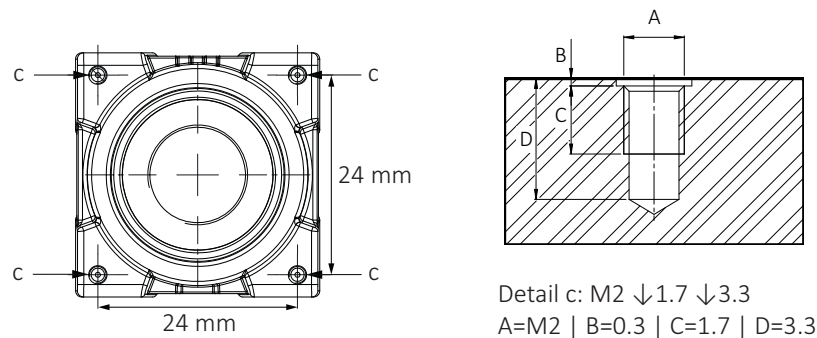

Figure 35: Camera front with mounting threads (c)
1. Mount the camera to the base using suitable M2 screws at 0.17 Nm maximum torque for a thread engagement (C) of 1.7 mm between screws and mounting threads, see Figure 35. For technical drawings, see Dimensions and mass on page 94.